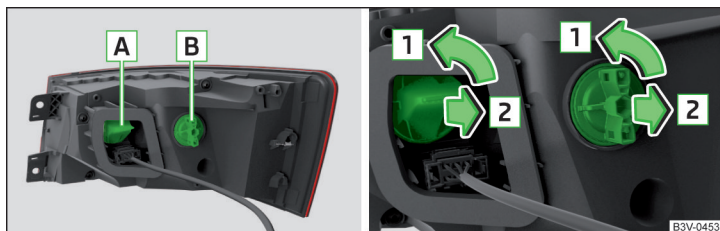

Fig. 367 Tail light / bulb replacement
- › Turn the holder with the bulb **A** or **B** » Fig. 367 in the direction of the arrow **1**.